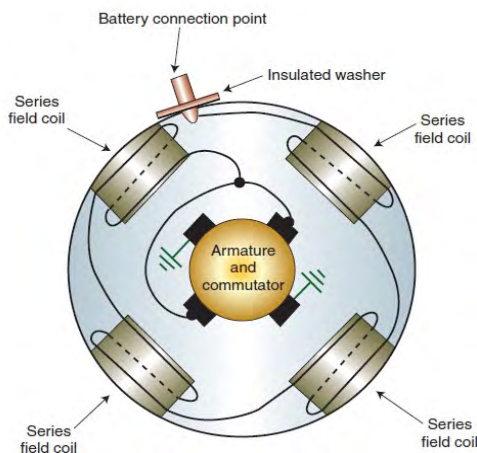

Figure 3.16: Series starter motor
1. **Series Motor:** This type of motor has the thick field coils arranged in series with the armature windings and all current that passes to the armature also goes through the field. These give the strongest field. The current flows into the motor terminal and through the field windings, from there, it goes through one brush and then through the commutator to the other brush. This brush is connected to the ground which is the return circuit to the battery. Figure 3.16 shows a series starter motor.